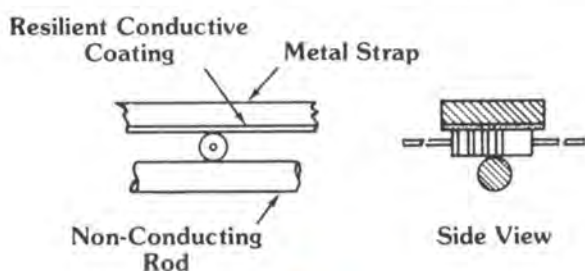

Figure 1
0.075 inch (1,90 mm) thick conductively attached or bonded to a rigid metal strap. See Figure 1. The clamping pressure shall be such as to embed the resistor color bands in the resilient material and provide intimate electrical contact over the entire length of the resistor body along a surface line parallel to the longitudinal axis of the resistor. The metal strap and resilient conductive coating shall be at least as wide as the length of the resistor body, and the resistor body shall be approximately centered on the strap. See Figure 1. For types GM and HM, connection may be made to the attached metal clamp in lieu of the coated metal strap described above. The resistivity of the resilient conducting material shall be less than 1000 ohm-centimeters.